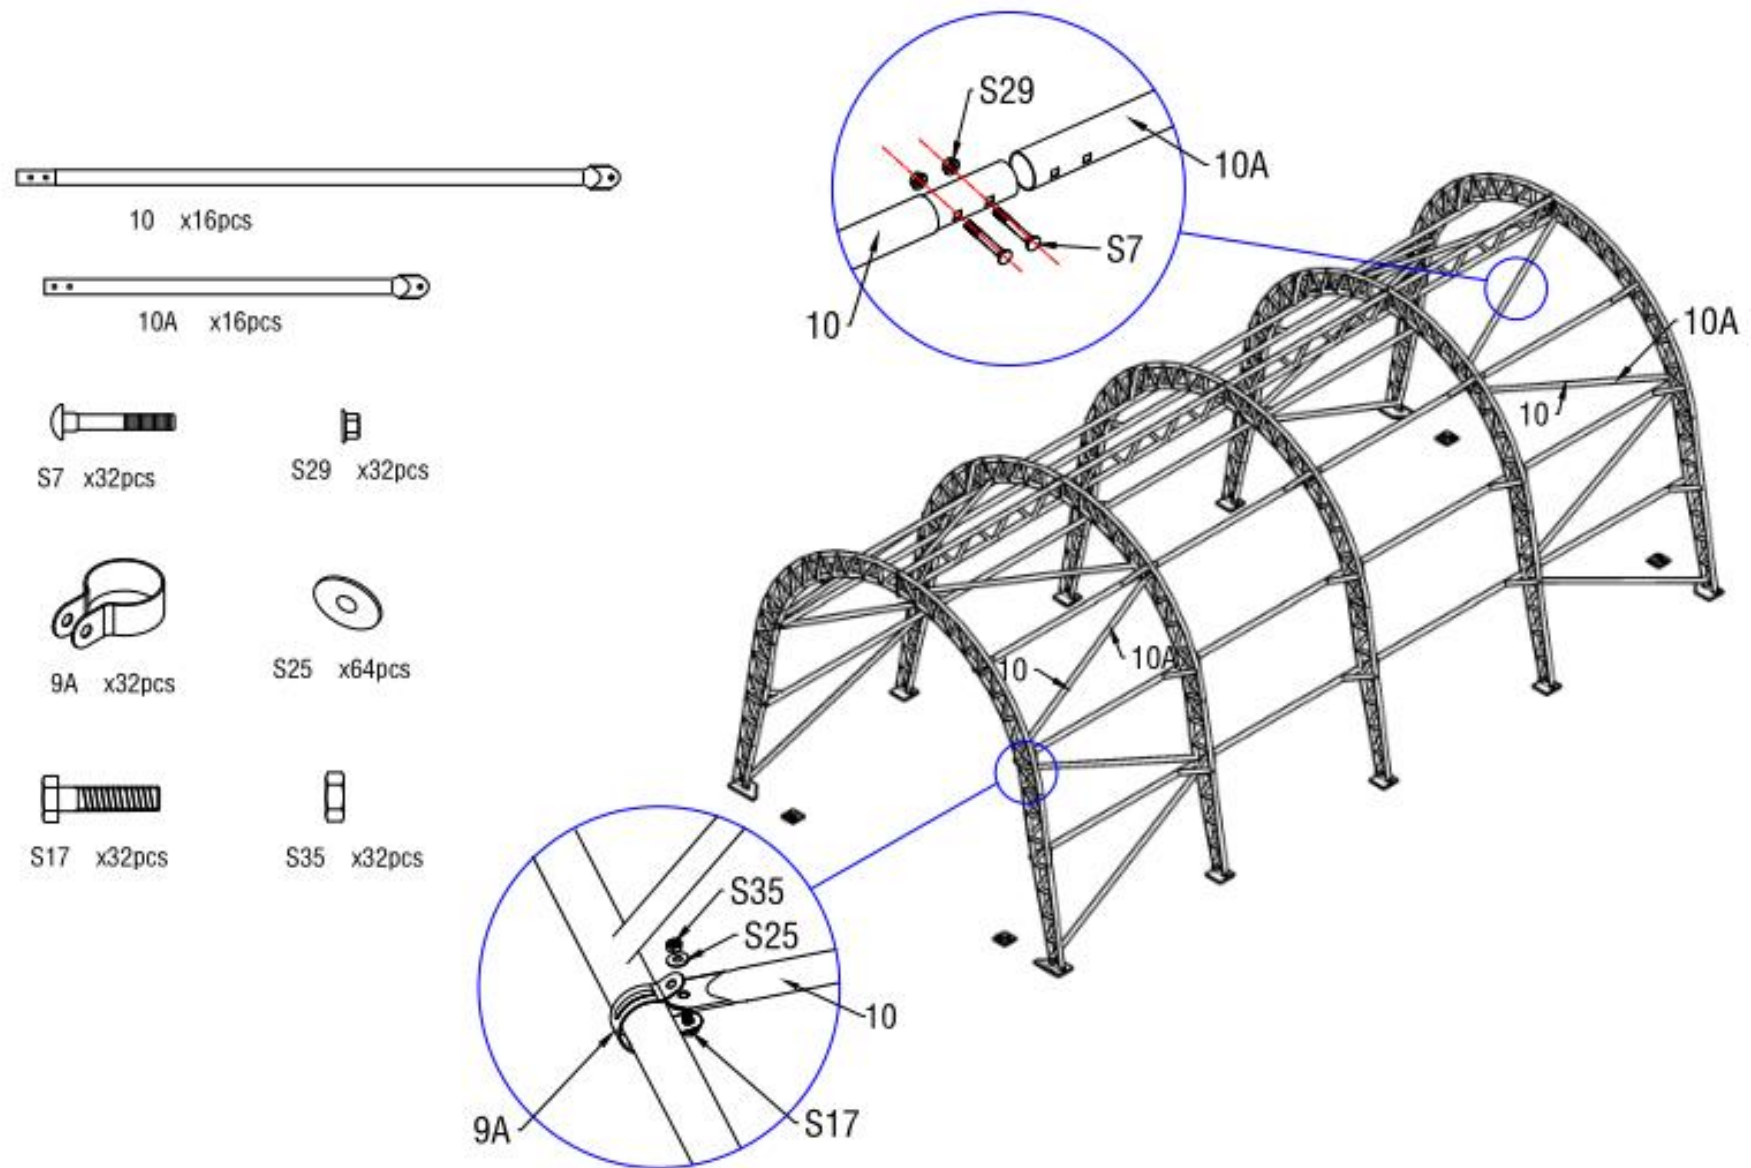

Figure 10
- As figure 10 shown to find Diagonal Support Female Tube(No.10) and Diagonal Support Male Tube(No.10A) and assemble every group support tube with Carriage bolt M8x60(No.S7) and flange nut M8(No.S29). Then connect the diagonal support tube to arch by using clip(No.9A).